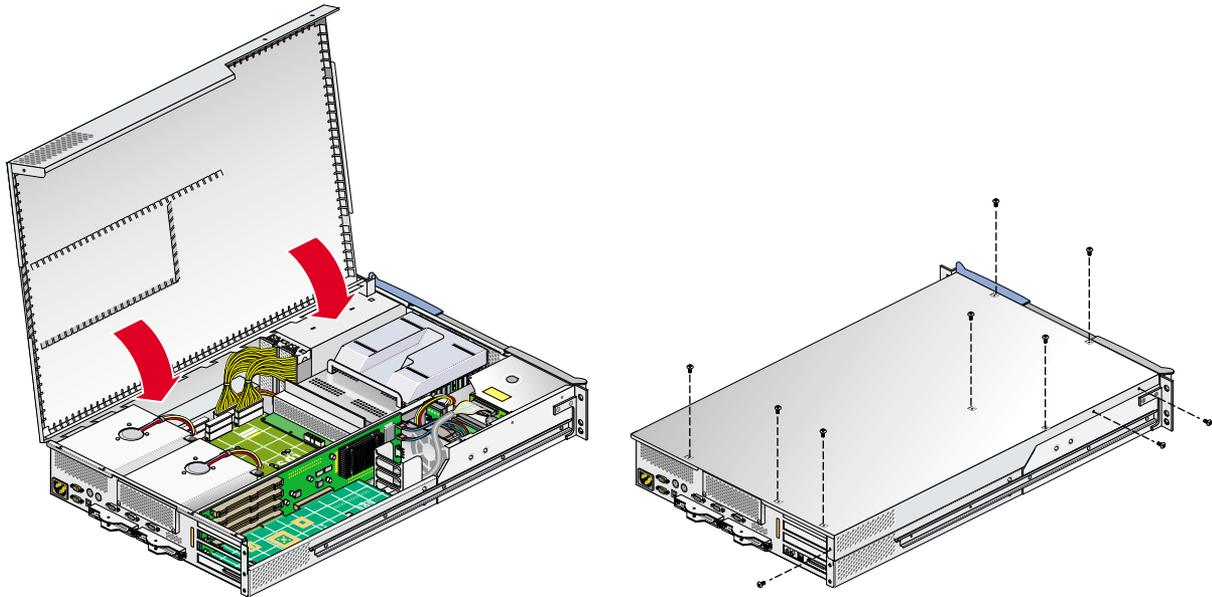

Figure 7-2 Closing and Replacing the Module's Top Cover
7. After completing the procedure(s) needed, close and secure the module by replacing the cover and tightening the ten screws, as shown in Figure 7-2.
11. Close the hinged cover on the system and screw in the ten Phillips screws you had removed to secure the cover, as shown in Figure 7-2 on page 109.